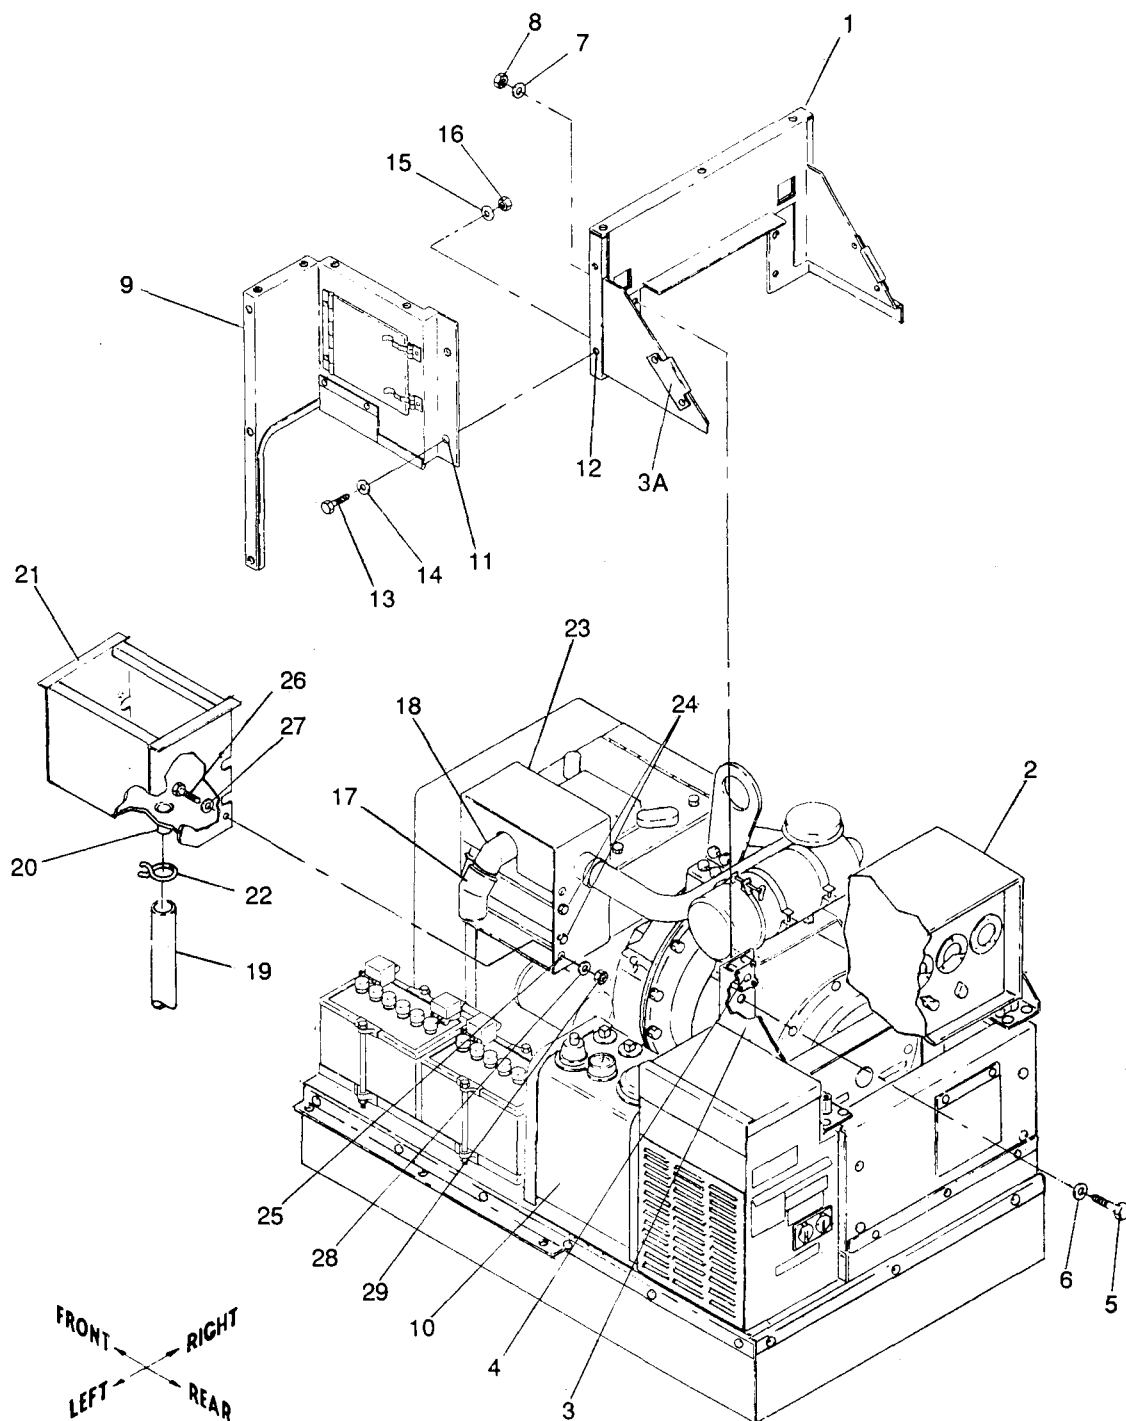

Figure 10-3. Installation of Rear and Side Closure and Exhaust Plenum Assemblies
(2) Refer to figure 10-3 and locate rear closure assembly (1) behind mounting brackets (3). Seat clips (3A) of rear closure assembly (1) over mounting brackets (3), so that rear closure assembly (1) is positioned over vibration mount hardware. When positioned correctly, the rear closure assembly (1) is 1/4 inch higher than top of control cubicle (2). Using rear closure assembly (1) as template, mark and drill four 5/16 inch holes in mounting brackets (3).
(3) Cut a 23 in. length and a 14 in. length of adhesive backed teflon tape (listed in Table 10-1, item 5). Apply adhesive backed teflon tape to a clean top edge (edge with three holes) and right edge (edge with two holes which will contact right panel assembly) of rear closure assembly (1). Use hand pressure to remove air bubbles. Clear tape from holes.
(4) Install rear closure assembly (1) to control cubicle support (3) with four screws (5), eight washers (6 and 7), and four locknuts (8) (as listed in Table 10-1, item 5).
(5) Torque screws (5) to 16 \pm 2 ft-lbs dry.
(6) Refer to Operator and Organizational Maintenance Manual, paragraph 3-18, and replace air cleaner assembly removed in step e.(1).
(2) Refer to figure 10-3 and locate side closure assembly (9) over fuel tank (10). Align side closure assembly mounting holes (11) with rear closure assembly mounting holes (12).
(3) Install side closure assembly (9) to rear closure assembly (1) with two screws (13), four washers (14 and 15) and two locknuts (16) (as listed in Table 10-1, item 6)
(4) Torque screws (13) to 16 \pm 2 ft-lbs dry.
(1) Refer to figure 10-3 and install exhaust elbow (17) (as listed in Table 10-1, item 7) to generator exhaust (18). Point elbow opening downward (exhaust down).
(2) Install hose (19) over sleeve (20) at bottom of exhaust plenum (21). Install clamp (22) over hose (19) and sleeve (20).
(3) Install exhaust plenum assembly (21) over exhaust shutter assembly (23) until rear upper channel of plenum is flush with exhaust shutter assembly (23). Screws (24) in exhaust shutter assembly (23) fit into plenum slots. (There is a 1-7/8" overlap.) Using exhaust plenum assembly (21) as template, mark mounting holes (25) and drill four 5/16 inch holes in exhaust shutter assembly (23).
(4) Install exhaust plenum assembly (21) to exhaust shutter assembly (23) with four screws (26), eight washers (27 and 28) and four locknuts (29) (listed in table 10-1, item 7.)
(5) Torque screws (26) to 16 \pm 2 ft-lbs dry.
(6) Route drain hose (19) between batteries and engine block.